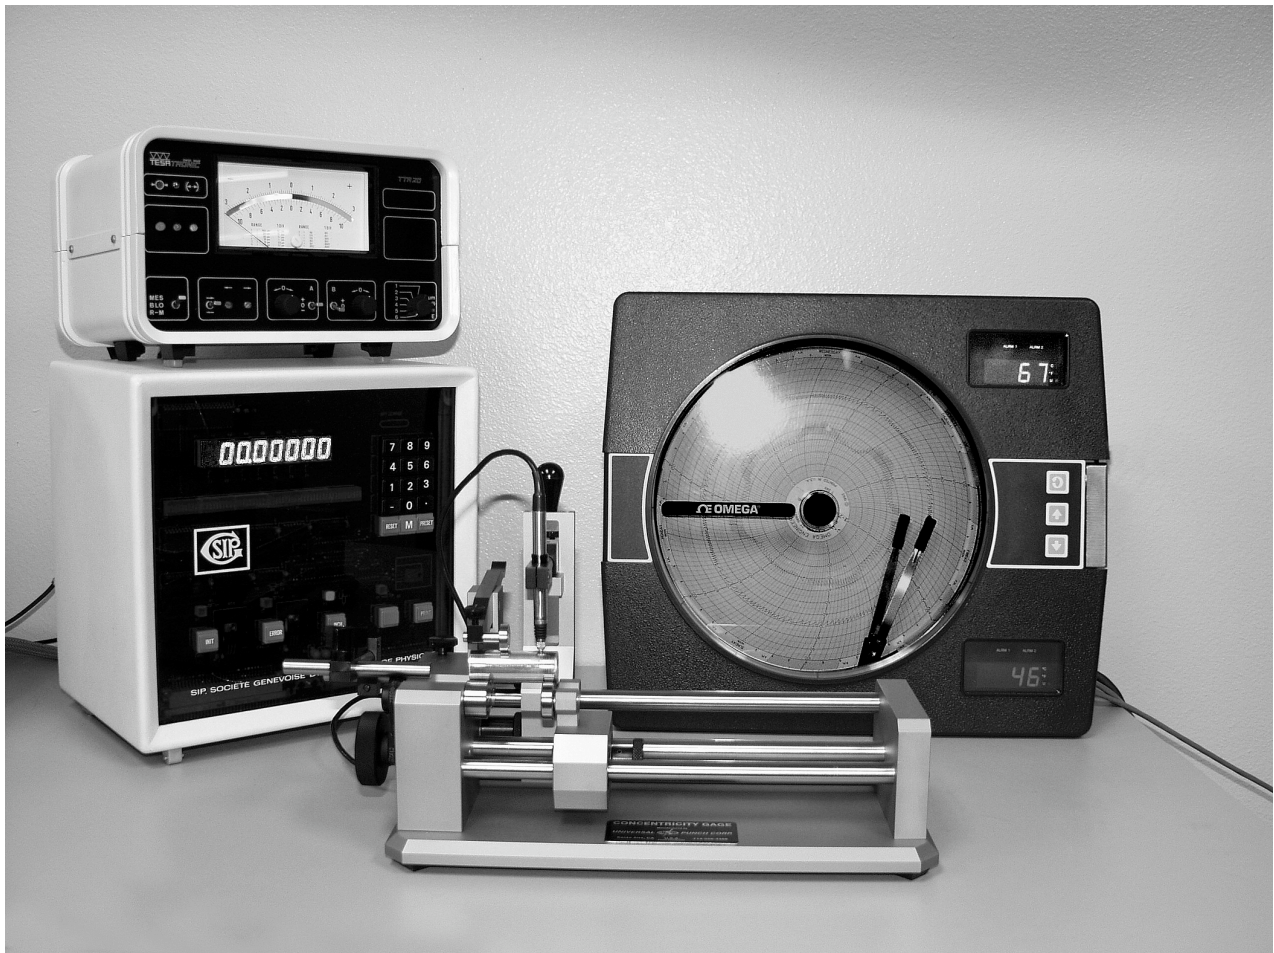

Figure 16. Calibration Set-up.
- 14.7.6 Verify the runout to be measured and place the appropriate calibrated test pin into the Concentricity Gage between the Main Rollers and allow the Top Roller to clamp it securely. (See Figure 16)
- 14.7.8 Move the Indicator Carrier holder with the measuring instrument assembly and bring the measuring instrument into position to measure the Calibrated test pin. This is a point directly over the Outboard Rollers, aligned with the centerline of the test pin in the vertical direction as shown in Figure 16.